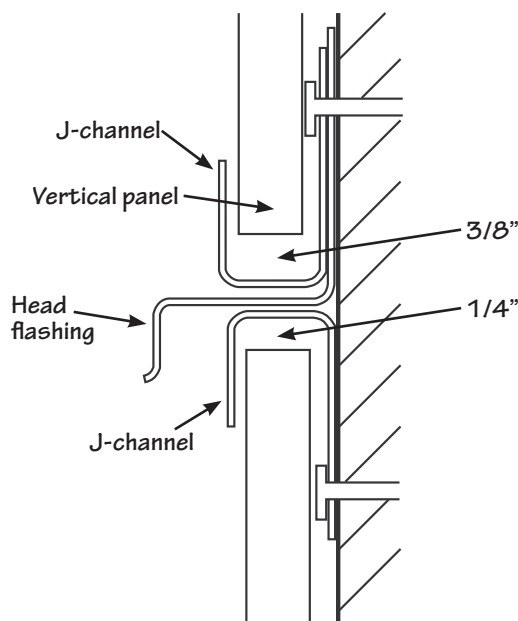
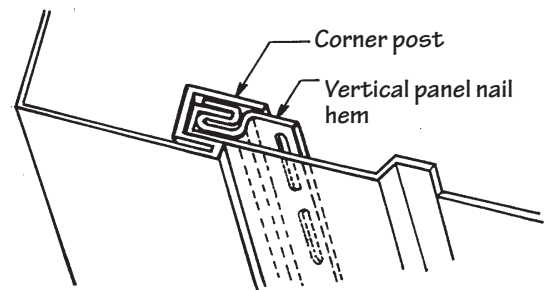

Figure 58.
Figure 60.
- If it will take more than one course to span the height of the house, terminate the first course into an inverted J-channel (Fig. 58), allowing 1/4" (6.4mm) for expansion. Install head flashing on top of the J-channel and install a second J-channel facing upward. Begin the second course leaving a 3/8" (9.5mm) gap from the bottom of the panel to the J-channel.
- As an alternative, you can create a starter strip for vertical siding by cutting the nail hem and adjacent lock off a vertical siding panel. Fasten it inside the receiver channel of the corner post. Be sure this piece is plumb. Leave enough clearance in the pocket of the corner post to allow the siding panel to be attached (Fig. 60).
- Begin by fastening J-channel along the inside edge of the roof. Install an upward facing J-channel as a vertical base on top of the previously installed J-channel at the base of the gable, as shown in Fig. 58. As an alternative, install back-to-back J-channels, centered with the peak of the gable. Install a cut nailing hem as a starter-strip in each J-channel, as described above (Fig. 60).